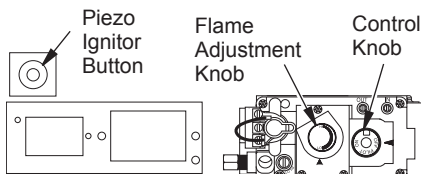

Figure 36 - Control Knob and Ignitor Button Location (Shown as Supplied - No Control Options)
3. Press in and turn control knob clockwise ↻ to the OFF position (see Figure 36).
4. Wait five (5) minutes to clear out any gas. Then smell for gas, including near the floor. If you smell gas, STOP! Follow "B" in the safety information, page 21. If you don't smell gas, go to the next step.
5. Press in and turn control knob counterclockwise ↻ to the PILOT position. Press in control knob for five (5) seconds (see Figure 36).